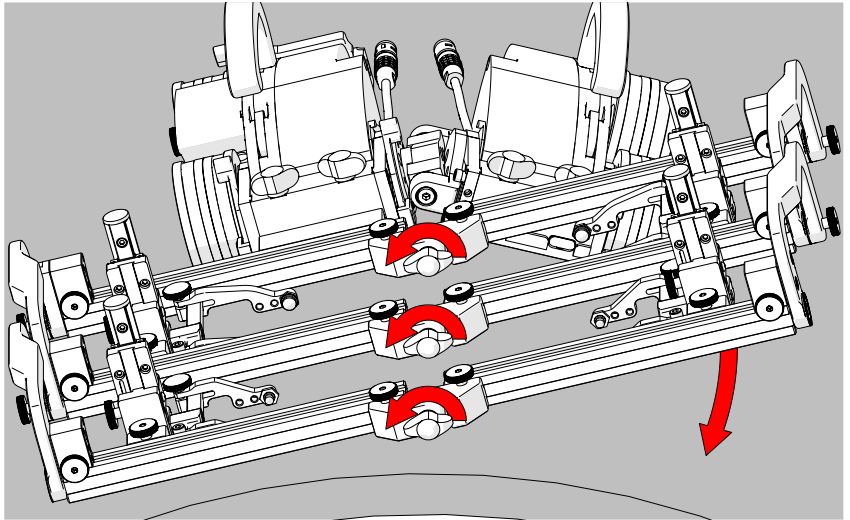

Fig. 233 - Loosen pivot wing knobs
1. Loosen the pivot wing knobs at the centre of the frame system (Fig. 233). Lower the left side of the frame system to align with the tangent of the scan surface. Tighten the pivot wing knobs.